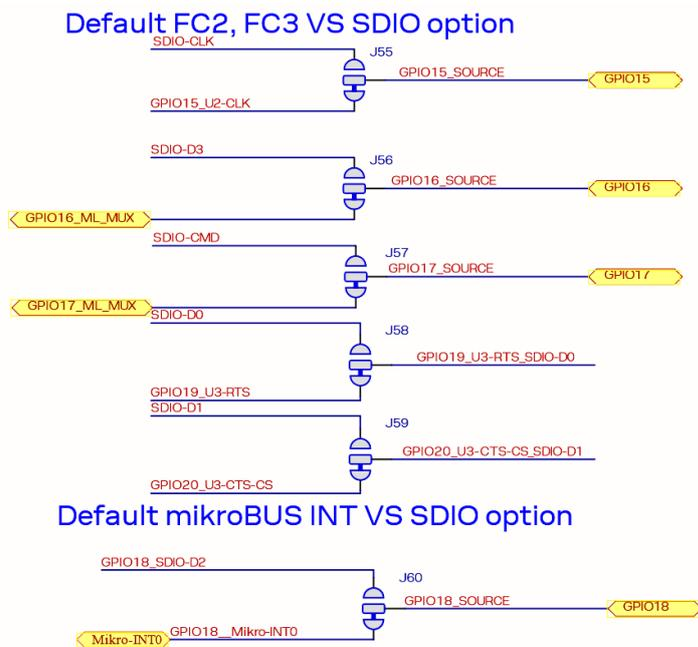
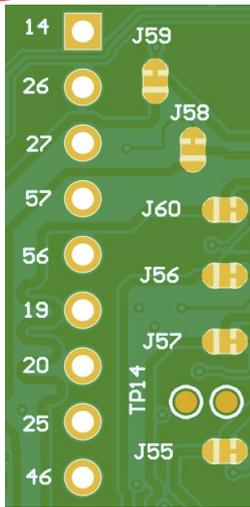

Figure 37: SDIO jumpers schematic
Figure 38: Jumpers J55, J56, J57, J58, J59, J60 default connection
- Invert default connections for **J55, J56, J57, J58, J59, J60**, as shown in Figure 37 and Figure 38.